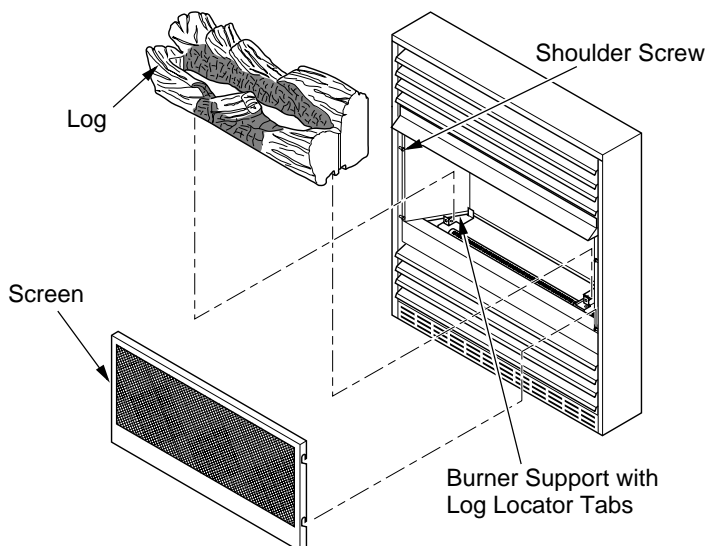

Figure 44 - Installing Log and Screen
- Remove log packaging material and discard packaging. Gently place log on burner support (see Figure 44). The log should fit flat against top of burner support and log locator tabs fit into the slots under the log. Do not allow log to contact flame. If flame contacts log, soot will be created.